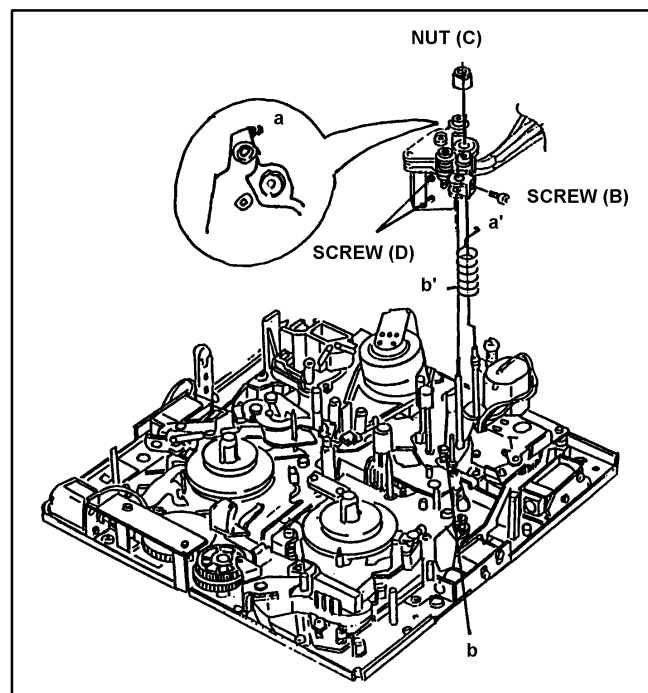

Figure 1-23-1
1. Loosen the hex screw (B) and remove the Nut (C). Hang off the Head Height Adjustment Spring and then remove the A/C Head Unit as shown in Figure 1-23-1.